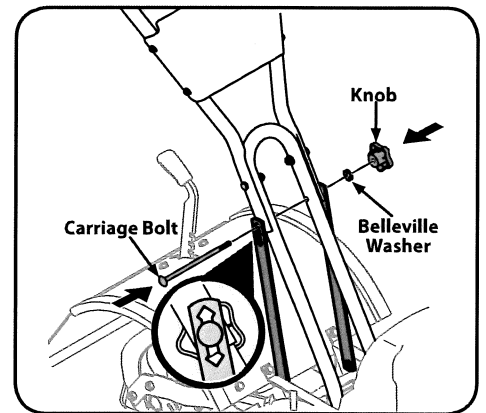

Figure 3-3
3. Loosely attach the support brackets to the outside of the handlebar assembly using the carriage bolt, belleville washer and knob. Refer to Figure 3-3.